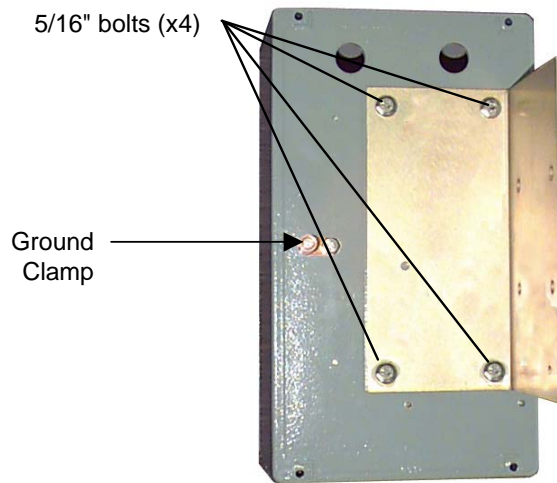

Figure 1. Bracket installation
- 2 (See **Figure 1**). The mounting bracket attaches to the underside of the 6502 enclosure with 4 bolts. Position the bracket against the underside of the enclosure so that the mounting holes in the bracket and enclosure align.
- 13 Fasten a ground wire between the ground cable installed during site preparation and the ground clamp on the underside of the enclosure (see **Figure 1**).